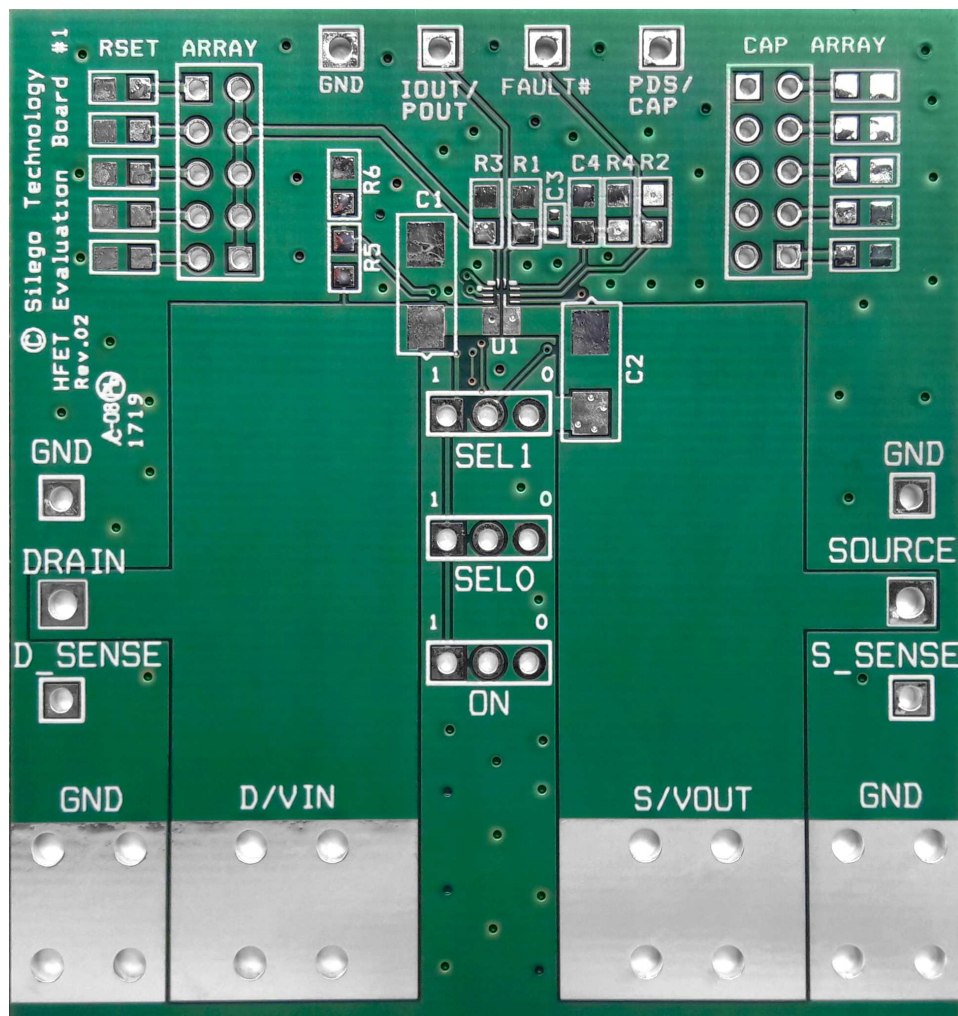

Figure 19. SLG59H1127V Evaluation Board
1. Since the VIN and VOUT pins dissipate most of the heat generated during high-load current operation, it is highly recommended to make power traces as short, direct, and wide as possible. A good practice is to make power traces with absolute minimum widths of 15 mils (0.381 mm) per Ampere. A representative layout, shown in Figure 19, illustrates proper techniques for heat to transfer as efficiently as possible out of the device;
A High Voltage GreenFET Evaluation Board for SLG59H1127V is designed according to the statements above and is illustrated on Figure 19. Please note that evaluation board has D_Sense and S_Sense pads. They cannot carry high currents and dedicated only for $R_{DS(ON)}$ evaluation.